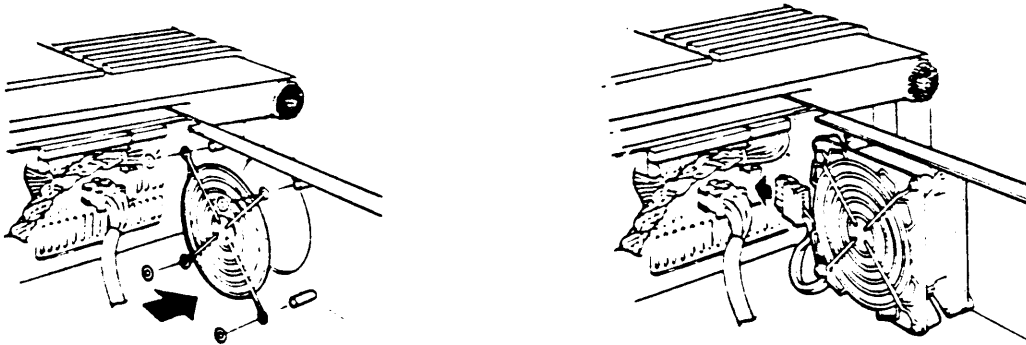

Figure 8-31 Install Replacement Fan
2. Relocate the four screws and place the fan guard on the screws. Make sure the cross members of the fan guard face the inside of the unit (Figure 8-31).